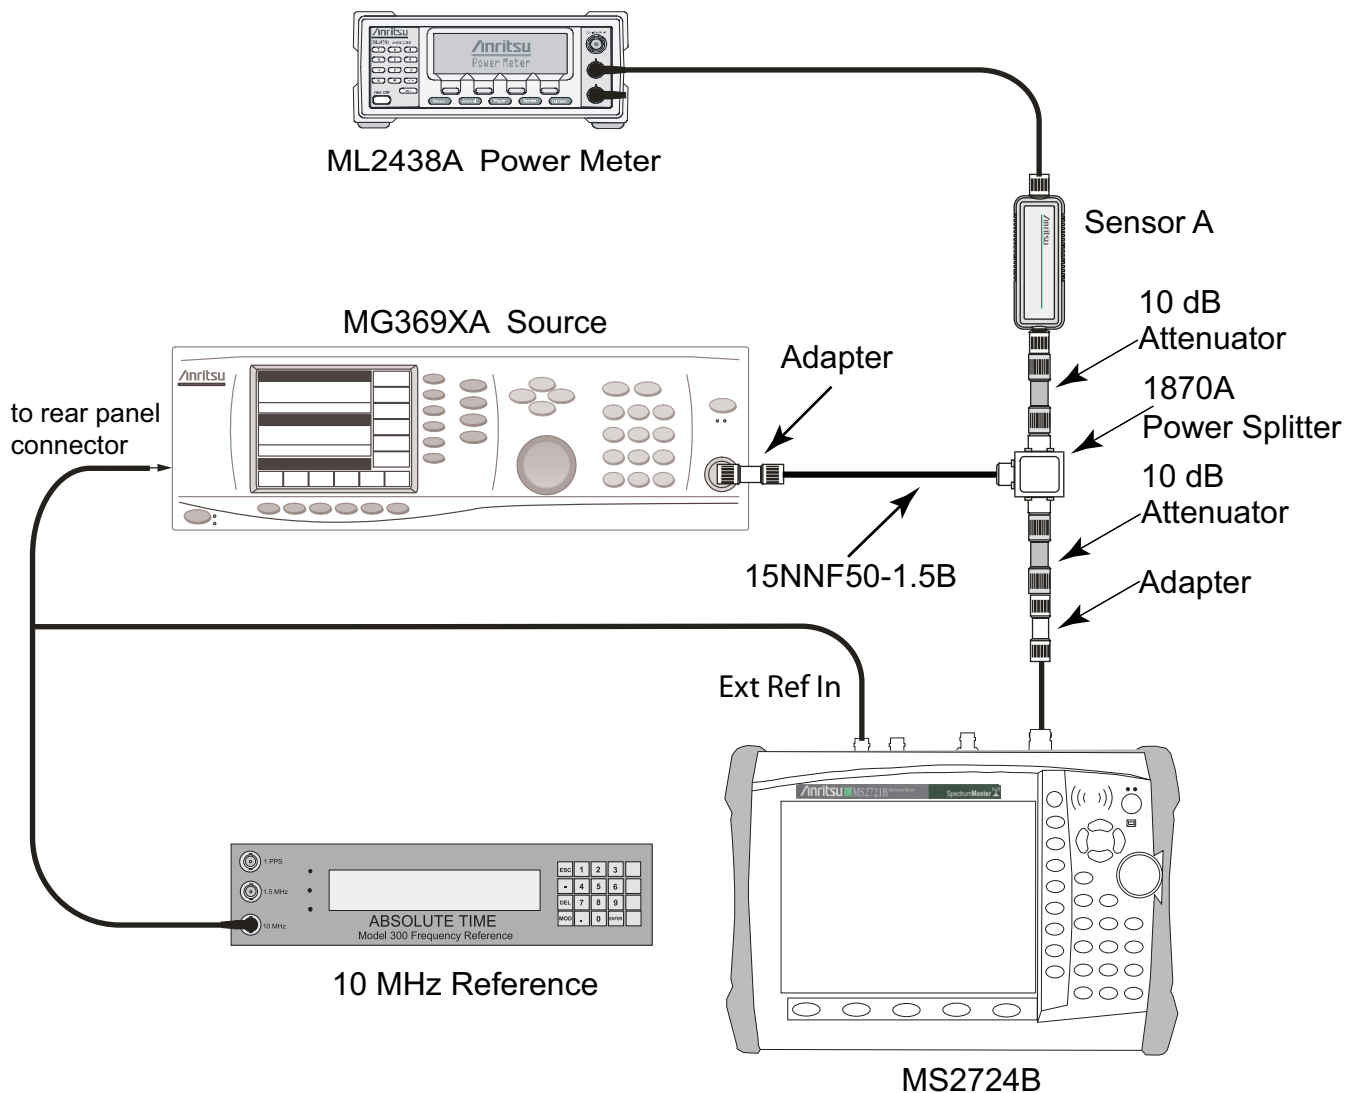

Figure 2-15. 9 kHz to 100 kHz Amplitude Accuracy Verification – Test Setup
5. Connect the MS2723B or MS2724B to the test setup as shown in Figure 2-15.